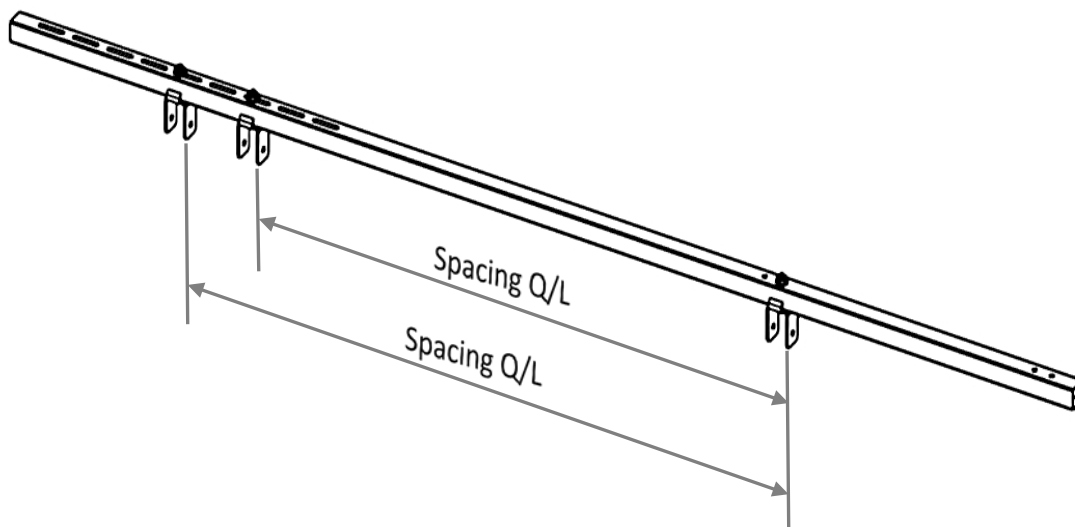

Figure 2 Spacer Stick
1. Consult the provided Ballast Layout Drawing for the Support spacing between modules (Spacing L) and Support spacing under modules (Spacing Q) (Figure 2). Dimensions L and Q are module dependent and vary from manufacturer. In some scenarios L is longer than Q while for others it is the opposite.